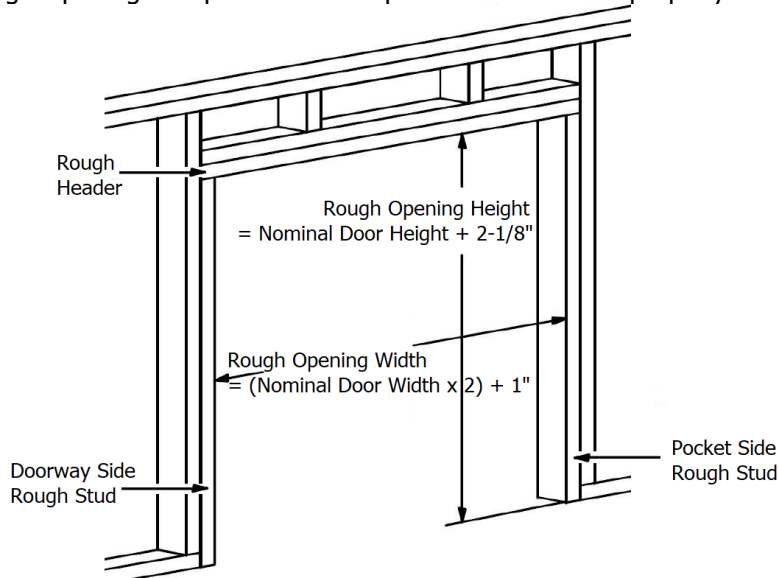

Figure 1
- Measure the Rough Opening using Figure 1